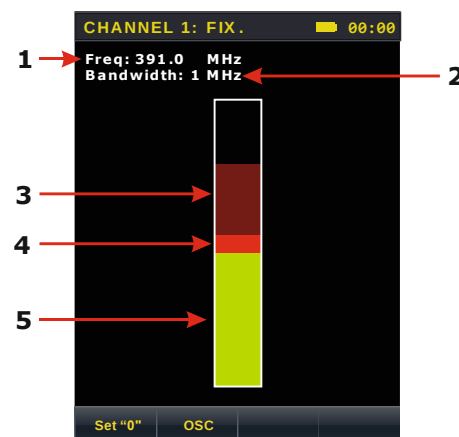

Figure 13
Mode screen shown in Figure 13.
Monitoring changes in the relative signal level of the indicator (item 4, 5, Figure 13)
Adjust the center frequency of the signal with a step equal to the bandwidth (Figure 13 item 1)	LEFT or RIGHT
Changing the bandwidth: 1, 2, 5, 10, 20, 40 MHz (Fig. 13 key 2)	UP or DOWN